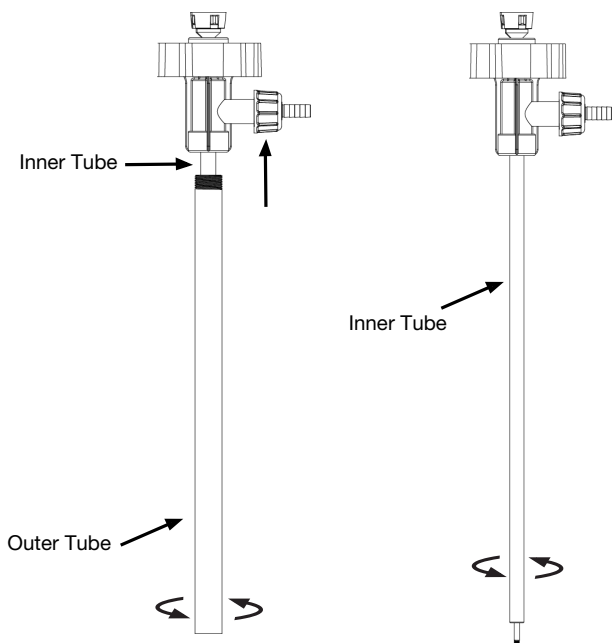

Figure 6
6. Remove outer tube and inner tube from discharge housing by turning clockwise (see Figure 6).